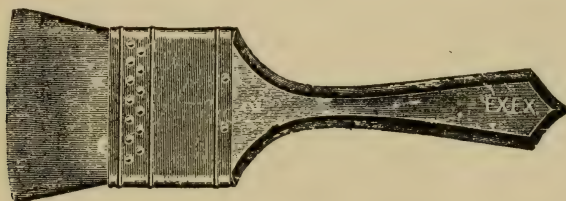

Fig. 40—Camel's Hair Mottler.
30. *a. Camel's hair varnish brushes* are used for many purposes and by nearly all branches of the painter's trade. They are very soft and lay varnish very smoothly. They all are made flat on somewhat variously shaped heads with shorter length hair than varnish brushes from other material are usually made as otherwise they would work too flabby. Their sizes are numbered according to width in $\frac{1}{2}$ inch gradations from $\frac{1}{2}$ to 4 inches. See Fig. 40.